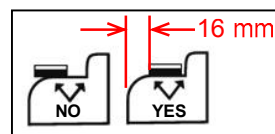

FIGURE 3
4. Carefully lift the sill plate along the edges (do not touch the exposed adhesive) and align the parts to the masking tape locations. Do not apply pressure until the positioning is satisfactory. **MAKE SURE LEADING EDGE OF PART REMAINS ON FLAT AREA OF SURFACE** (see Figure 3).